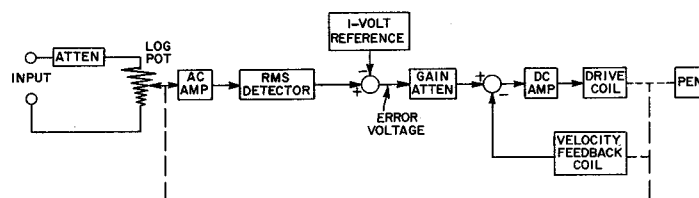

Figure 1.2. Block diagram of recorder.
**1.2 GENERAL DESCRIPTION.** (See Figure 1.2.) The Type 1521-B is a servo-type recorder. The input signal is fed through an input step attenuator to a potentiometer which is automatically positioned to maintain a constant 1-mv ac signal at the wiper arm output. This output voltage is amplified and then rectified by a quasi-rms detector (refer to paragraph 4.3). The detector's dc output voltage is compared with a 1-volt reference, and the difference (error) voltage is amplified by a dc amplifier. The push-pull output current from the dc am-